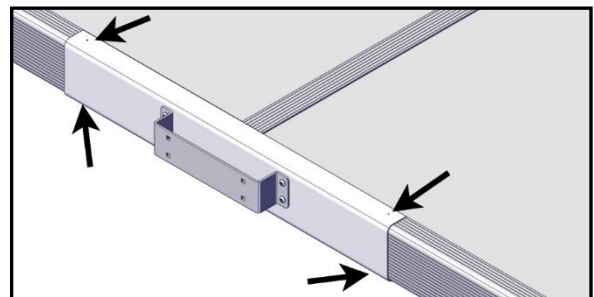
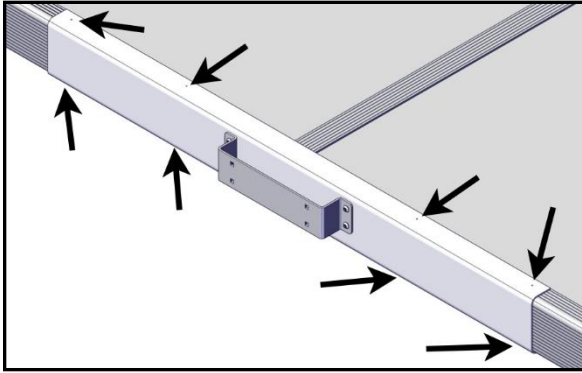

FIGURE 57: LOCATION OF THE DRILLING HOLES (4) IN THE SHORT SUPPORT BRACKET
FIGURE 58: LOCATION OF THE DRILLING HOLES (8) IN THE LONG SUPPORT BRACKET
- Next steps show how to drill holes to install final screws on the support brackets. There are 4 holes to drill for the short support bracket (Figure 57) and 8 holes to drill for the long support bracket (Figure 58).